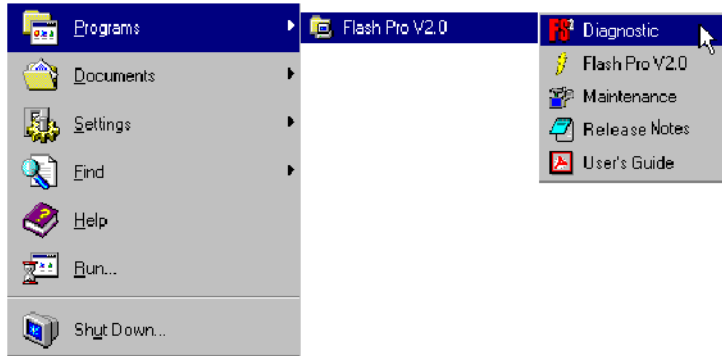

Figure 1-7. Starting Flash Pro Diagnostic
- 4. Start the Flash Pro Diagnostic software.** From the *Start* menu, point to *Programs*, *Flash Pro V2.0*, and click *Diagnostic*, as shown in Figure 1-7..